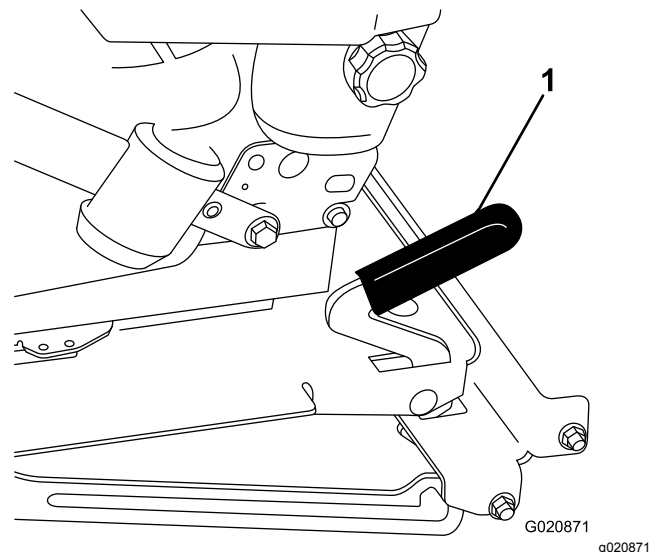

Figure 48
2. Pull the seat latch forward and lift up to unlatch the seat (Figure 48).